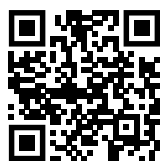

Fig. 184
- Åbn Liebherr SmartMonitoring Dashboard. (se Fig. 184)